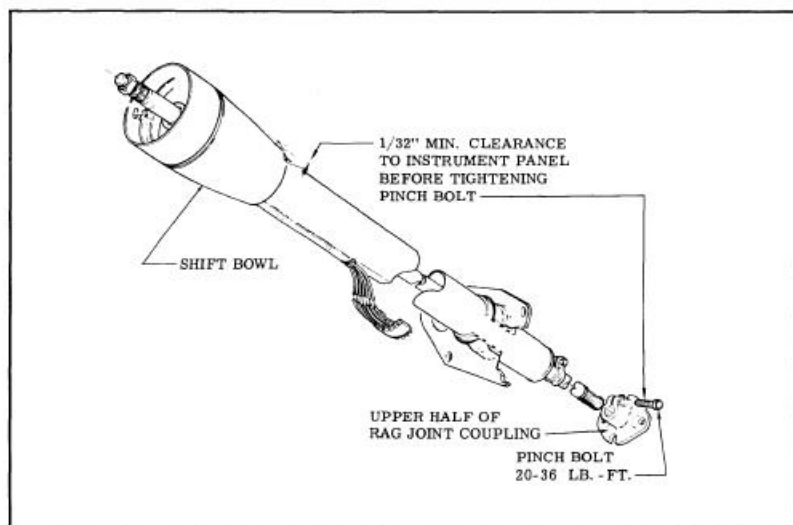

Figure 8-1—Mast Jacket Assembly
1. Remove pinchbolt from upper half of rag joint coupling (see Figure 8-1).